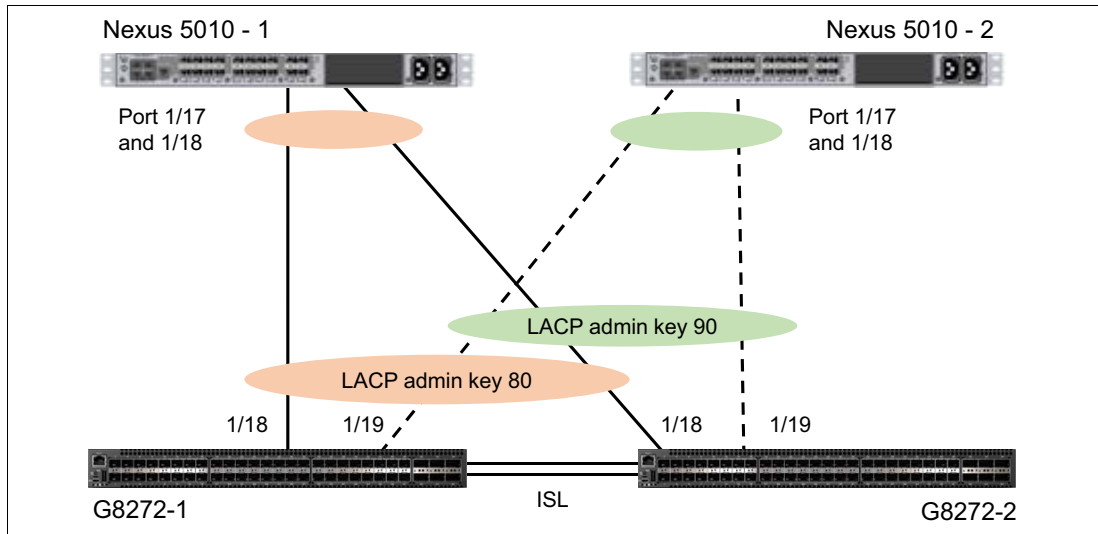

Figure 19 Connection of VLAG peers to independent uplink switches
On the Lenovo VLAG peers, the participating ports in the aggregation need to be added on both switches. For example, if our ports 18 on both switches are joined together in a 2-port, cross-VLAG aggregation using the LACP admin key 80, then the following configuration is required on *both* switches as shown in Figure 19 on page 22.